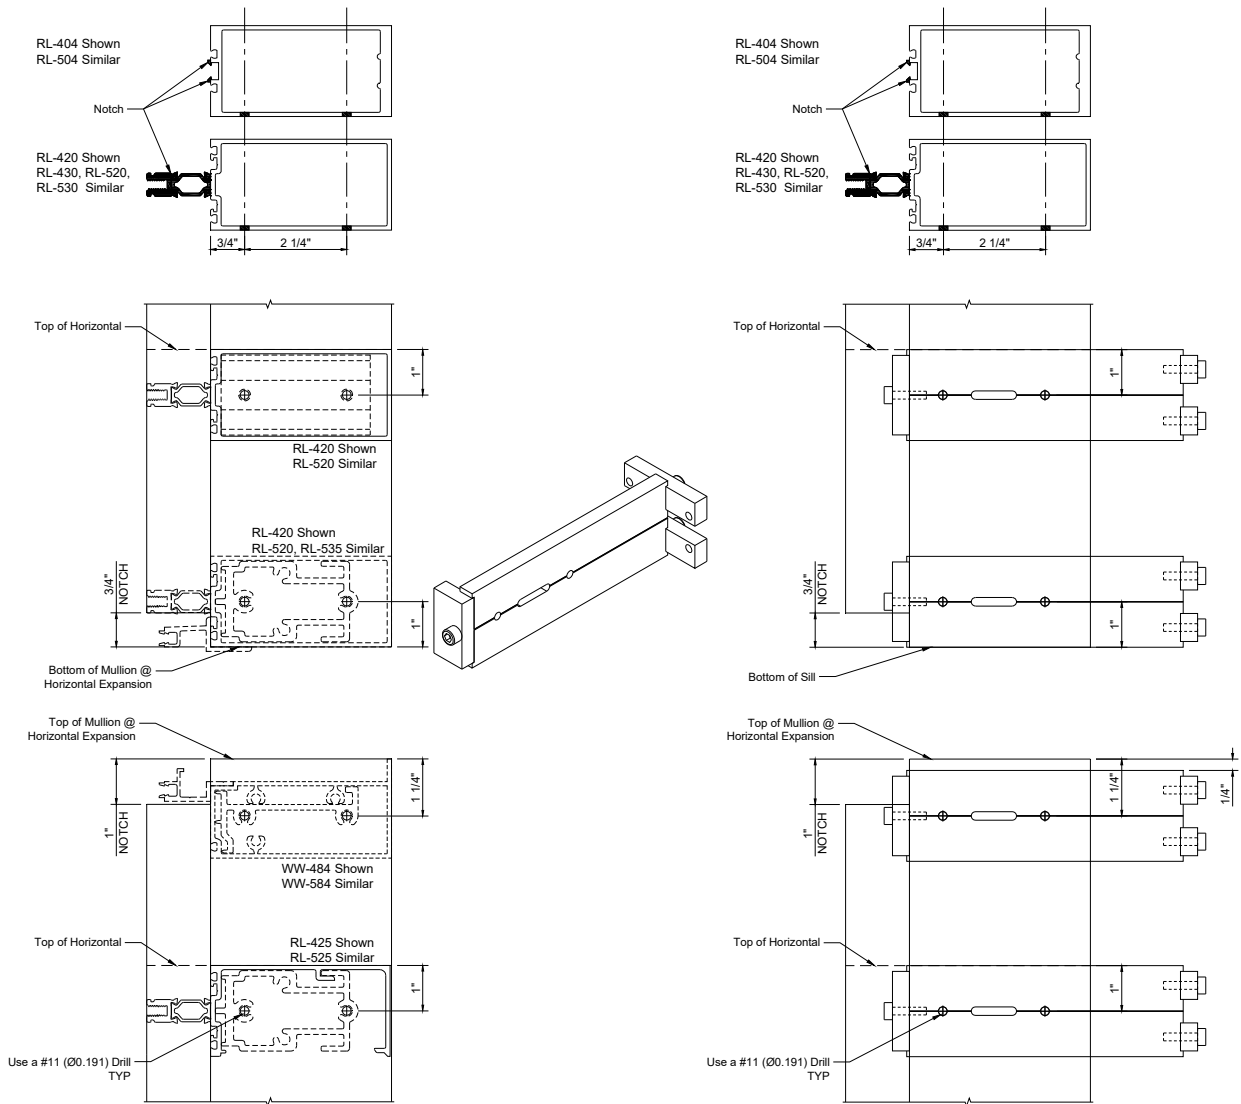
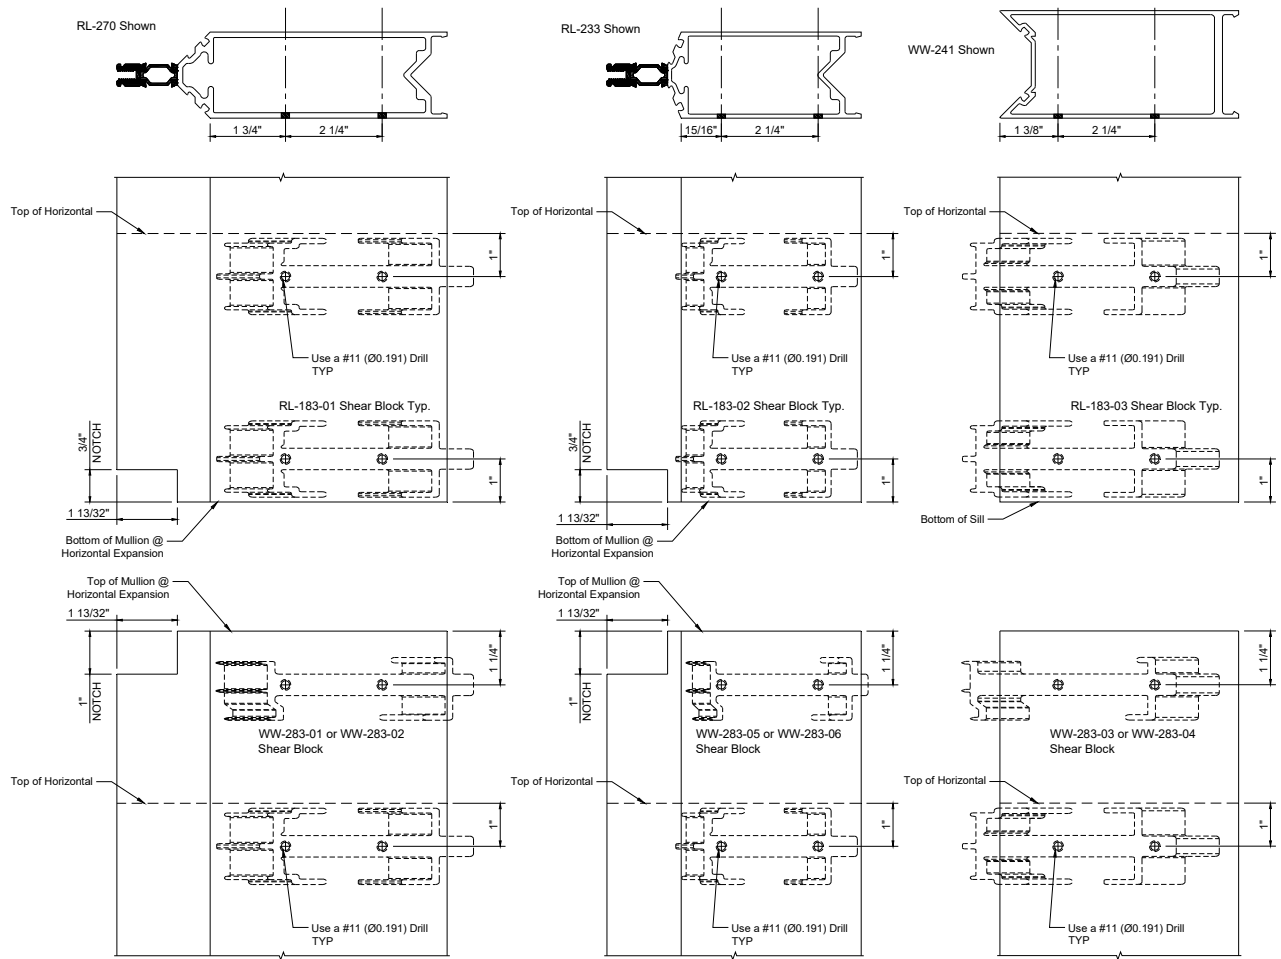

Figure 11: Vertical Fabrication at Expansion Horizontal
Figure 12: Corner Fabrication at Expansion Horizontal
- 6.1 Fabricate Vertical Mullions for horizontal members. Drill holes for shear block per *Figure 11* and *Figure 12*.